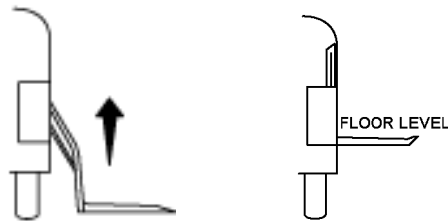

**FIG. 40 FASTEN OCCUPANT
6. Fasten OCCUPANT RESTRAINT BELT (**FIG. 40**). Allow 3" - 4" of slack in belt.